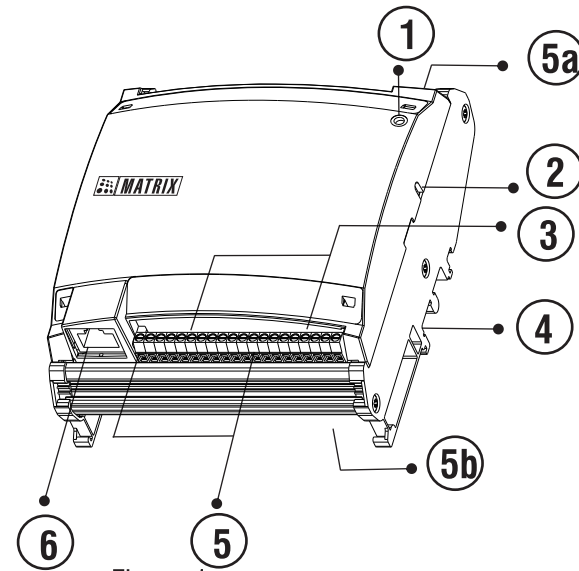
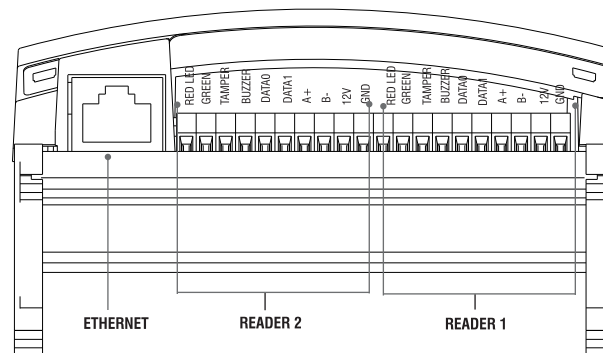

Figure 1:
Figure 2: Connection Terminals
- Connect the required cables with reference to Figures 1 & 2. To do this, insert the wires into their respective Connection Terminals as shown in Figure 2. Tighten the screw grips.